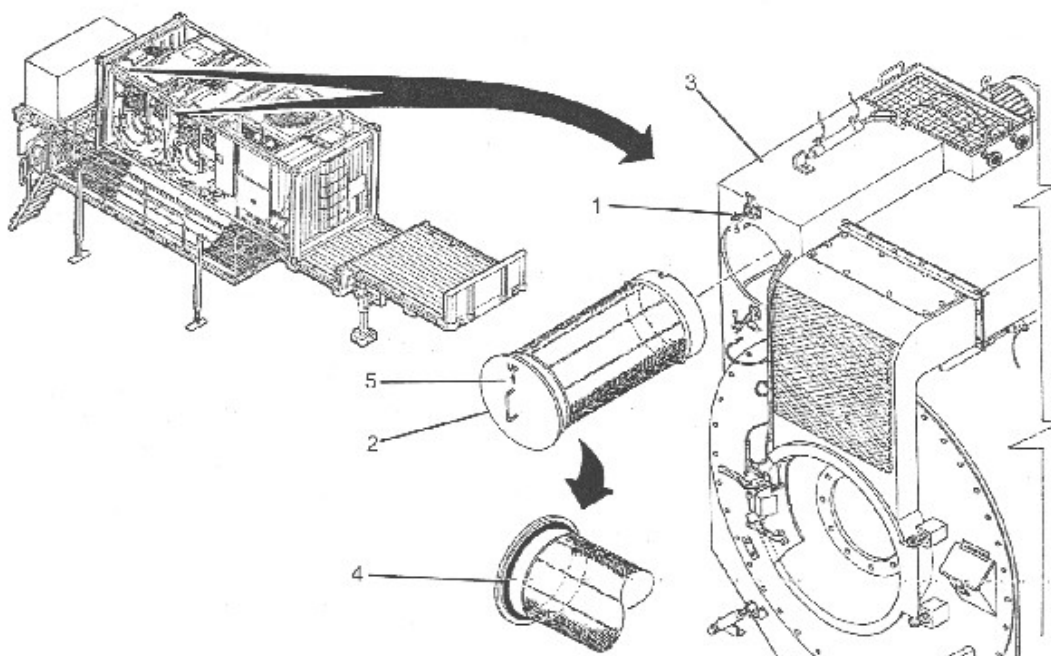

Figure 3-63
- (1) Unlock latches.
- (2) Slide lint filters out of dryer ducting.
- (3) Brush lint off of lint filters.
- (4) Inspect lint filters for tears or obvious damage. Replace if torn or damaged.
- (5) Inspect gaskets on backside of lint filters for tears or obvious damage. Notify maintenance if torn or damaged.
- (6) Reinstall lint filters with direction arrow pointing up.
- (7) Engage latches to secure lint filter. (See Figure 3-63)